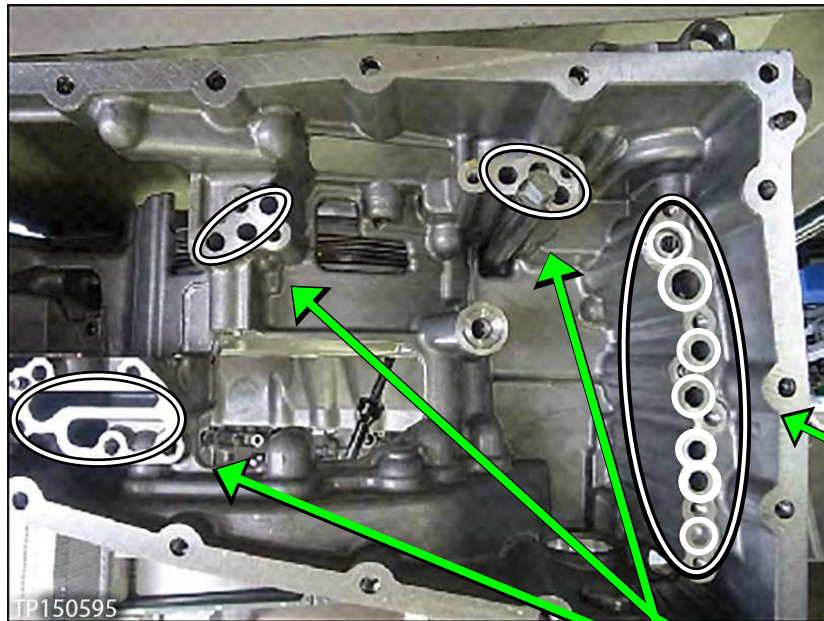
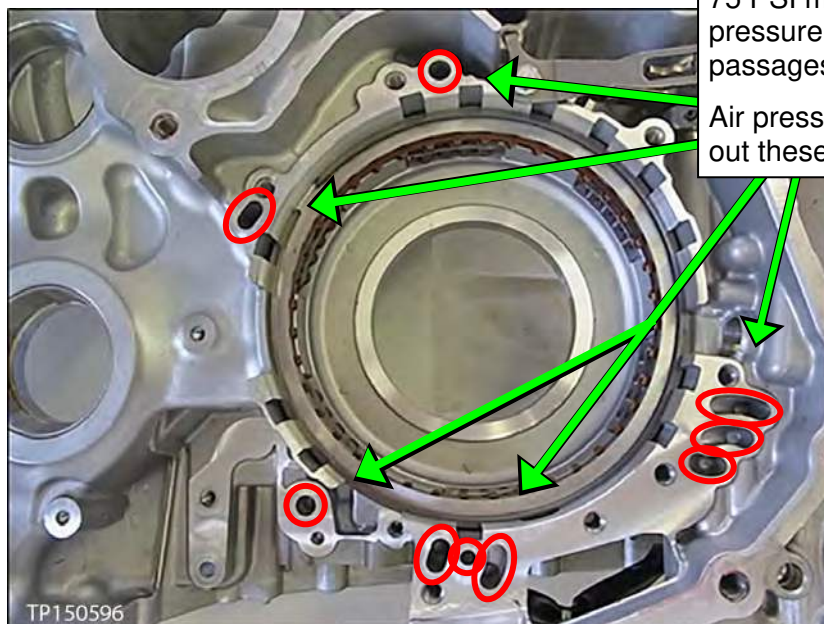

Figure 3D
Figure 4D
3. Spray brake cleaner in all oil passages of the CVT case where shown in Figure 3D and Figure 4D.